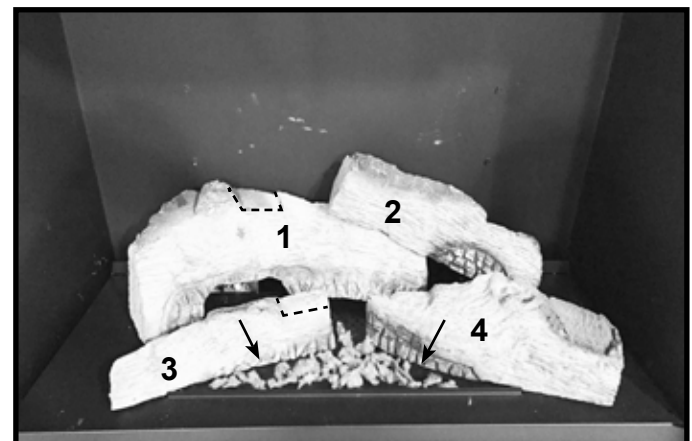
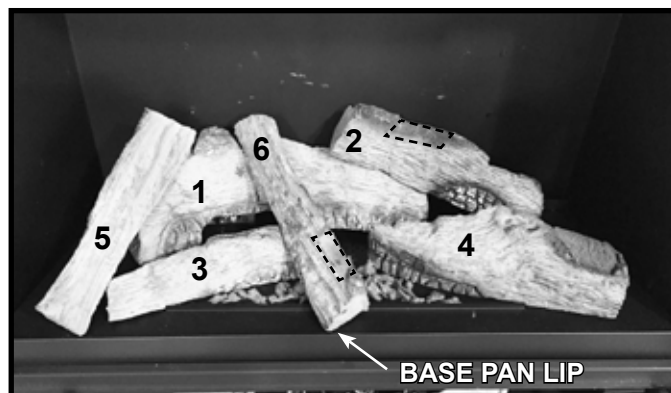

Figure 8.
Figure 11. Install Middle Left Cross Log
6. Locate the glowing embers and install them as shown in Figure 1. Do not install any glowing embers on the back row of burner ports. Glowing Embers can be placed directly over burner ports; however, for optimal front flame height, place glowing embers around the burner port clusters indicated by the “arrows” shown in Figure 8.
9. The Middle Left Cross Log (6) will rest on the voids and the base pan lip as shown in figure 8. Install log by placing it on top of the log voids. The tip of the log will contact front lip of base pan. See Figure 11.
10. The middle right cross log (7) will rest on two voids shown in Figure 11, install log by placing it on top of these voids. See Figure 12.